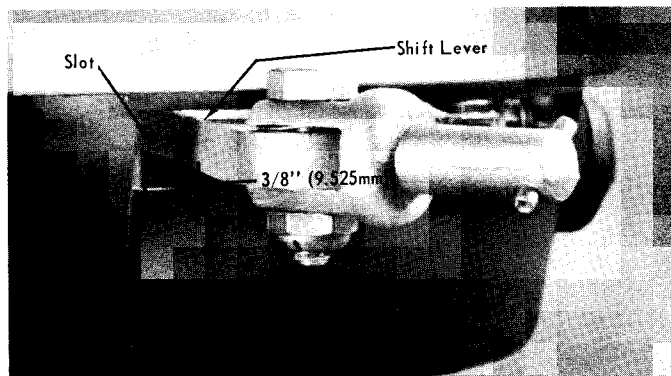

Figure 7. Clearance between Shift Lever and Cowl
1. Place motor in forward gear and adjust shift control rod to obtain $3/8''$ (9.525mm) clearance between shift lever and rear of slot in bottom cowl. (Figure 7)